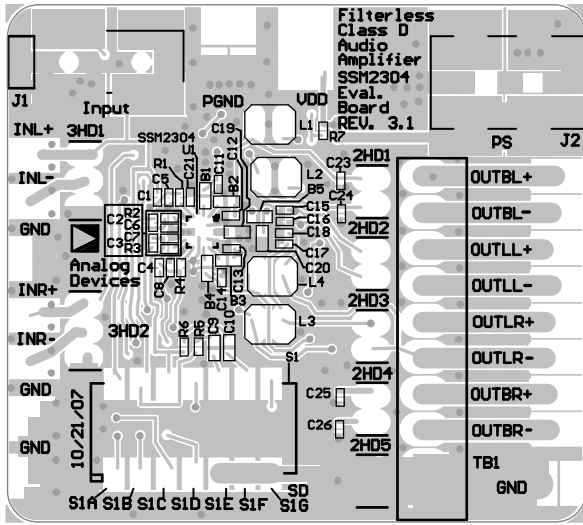
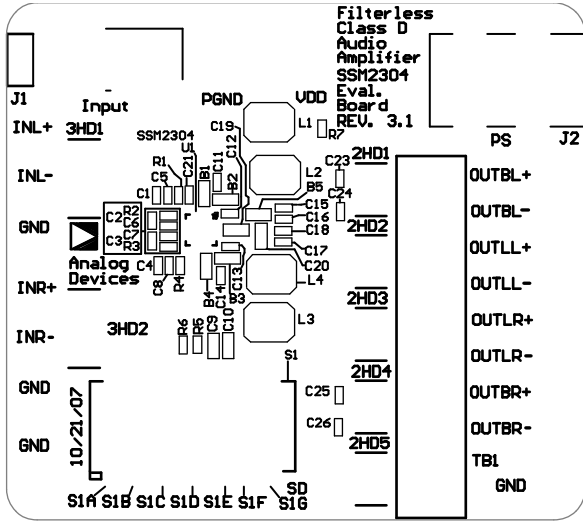
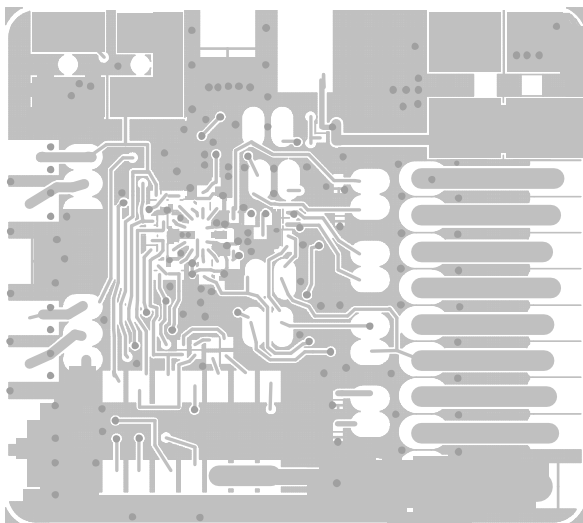

Figure 7. Top Silkscreen Layer with Other Top Layers
Figure 8. Top Silkscreen
Figure 9. Top Layers without Top Silkscreen Layer
these capacitors should be connected to the chip ground as close as possible. See Figure 7, Figure 8, and Figure 9.
- Connect the ground pins, Pin 6, Pin 7, Pin 13, and Pin 16, to the thermal pad and place grounding vias, as shown in Figure 7, Figure 8, and Figure 9.